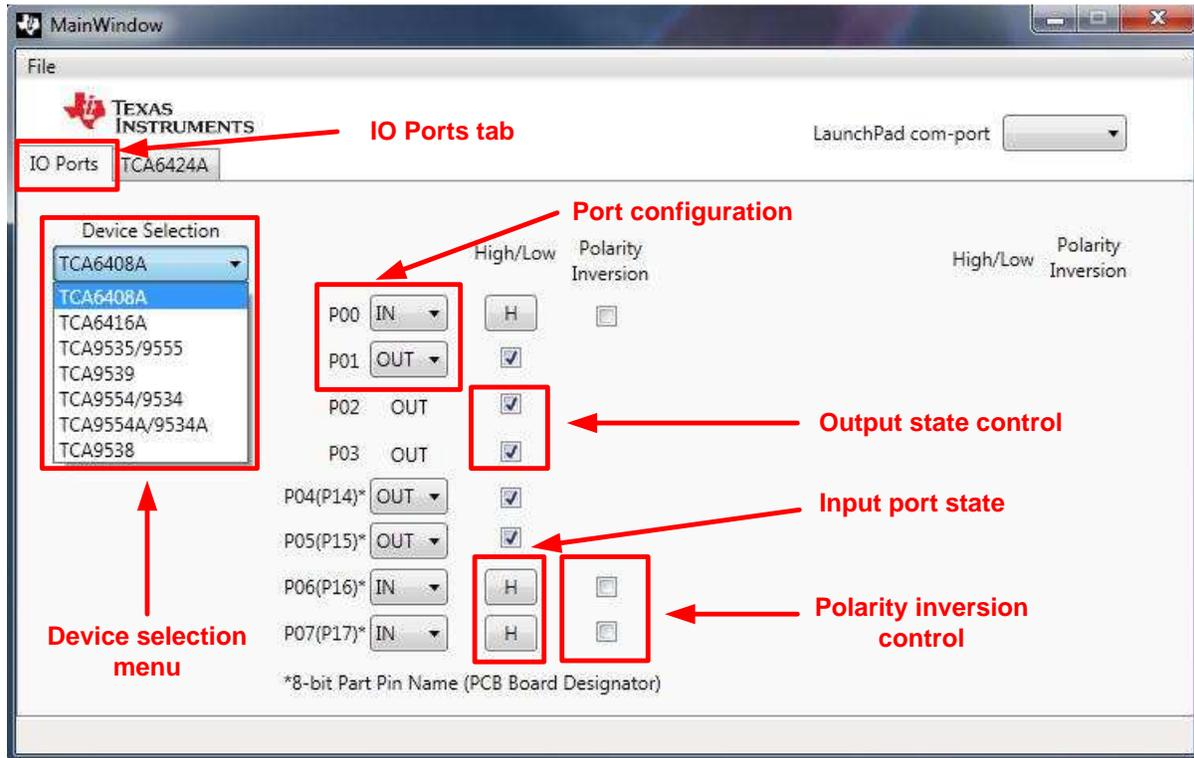

**Figure 3. IO Ports Tab (16-bit Part Installed) on GUI**
1. The IO Ports tab offers control for the TCA9539 and any of the other supported 16-bit IO expanders if one is alternately installed on the PCB. Figure 3 shows the IO Ports tab on the GUI for a 16-bit part.